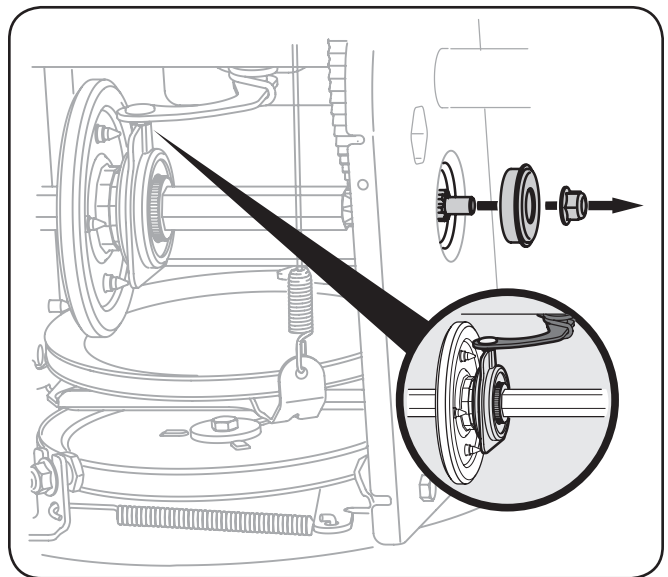

Fig. 7-10
- Carefully remove the hex nut which secures the hex shaft to the snow thrower frame and lightly tap the shaft's end to dislodge the ball bearing from the right side of the frame. See Fig. 7-10.
NOTE: Make sure the shift lever pin is in place in the bearing housing. See Fig. 7-10 inset.